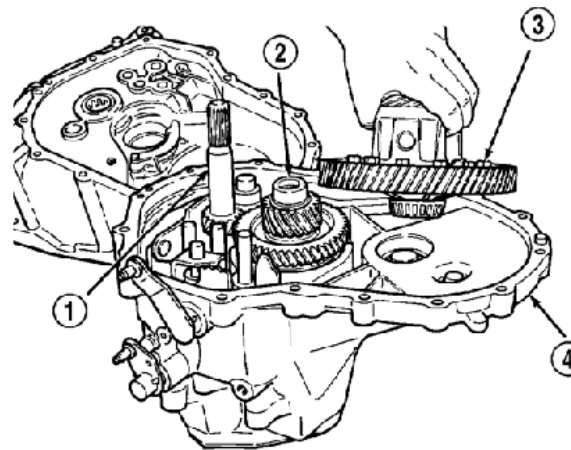

Figure 3-76 Assembly of differential
(19) Fix the differential in the gear box (Figure 3-76).